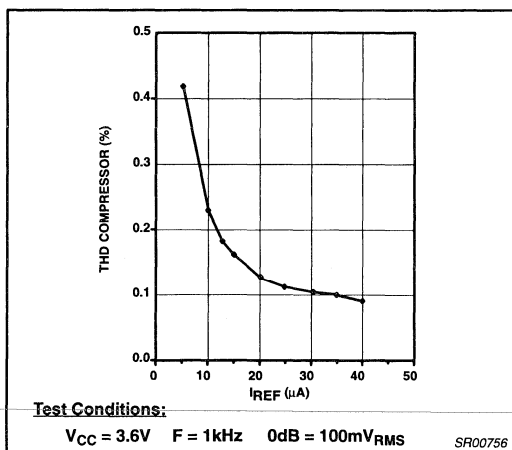

Figure 5 .  $I_{REF}$  vs THD, Compressor Side
Step 1: According to Figure 5, an  $I_{REF}$  of  $30\mu A$  is required for approximately 0.1% distortion.